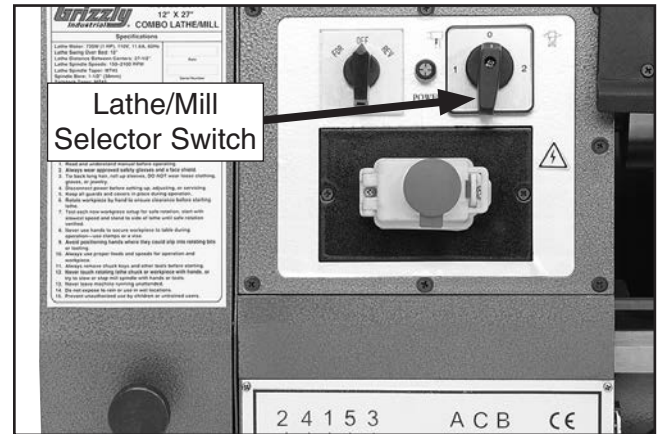

Figure 94. Location of lathe/mill selector switch.
1. Set Lathe/Mill selector switch to 2 for milling operations (see **Figure 94**).